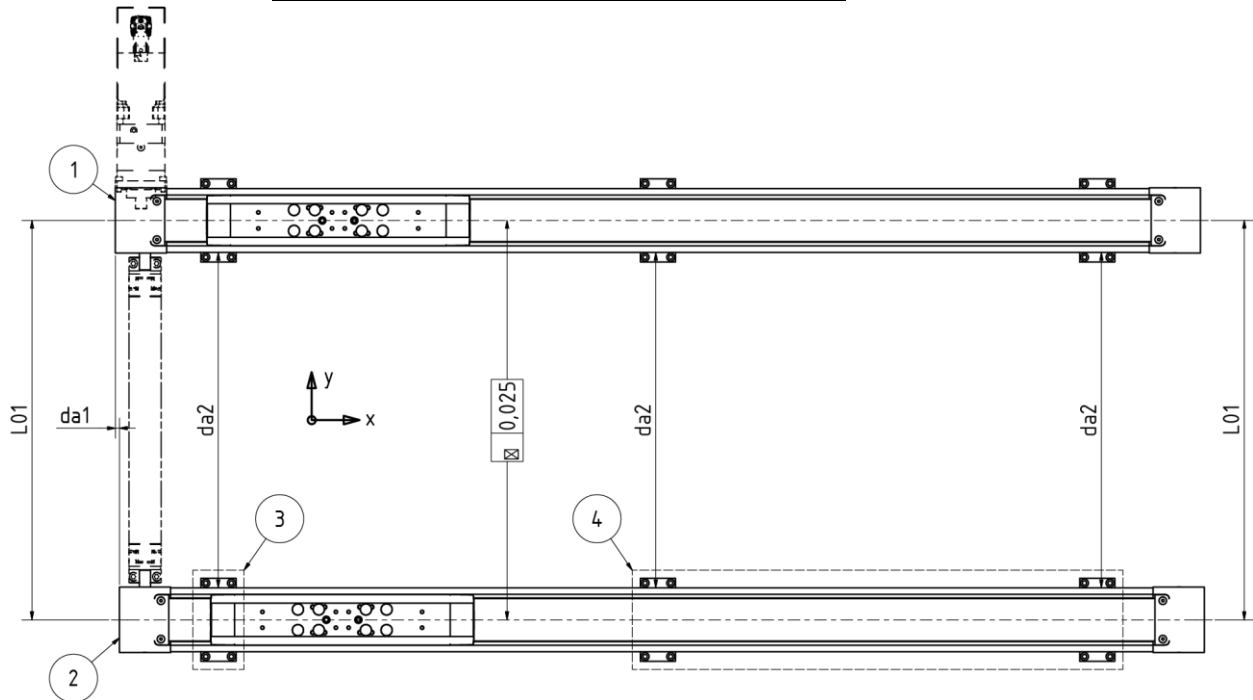

Figure 2: alignment double axis
- ◆ Installation of the first (driving) Linear actuator (Figure 2, Pos. 1) as described in chapter Installation of a single axis (see page 21)
- ◆ Place the second (driven) linear actuator (Figure 2, Pos. 2) to the leveled or treated connection surfaces. Rough alignment of the axis with the system (alignment with the mounting holes of the selected connection option). If the shaft trunions for mounting the connection shaft are already pre-assembled, make sure that the shaft trunions are oriented towards each other.
- ◆ Check center distance of the double axis (Figure 2 und Table 2, measurement L01) and correct if necessary.
- ◆ Align the linear axes axially to each other. Use the front faces of the drive stations. Maximum permissible offset of the drive stations (Figure 2, measurement da1):  $(L01-158) * \tan 0.06$ .
- ◆ Tighten the screws of the first fastening point of the second linear actuator (Figure 2, Pos. 3) with the respective tightening torque (please refer to Table 1).
- ◆ For the parallel alignment of the double axes, set the same distances one after the other between the individual fixing points of the linear actuators (Figure 2, measurement da2) and tighten the screws of the fastening points of the second linear actuator (Figure 2, Pos. 4) with the respective tightening torque (please refer to Figure 2). Observe the maximum permissible axis parallelism  $\leq 0.025$  mm. For this, use stops/stop edges, distance gauges, a dial gauge or other suitable measuring equipment.